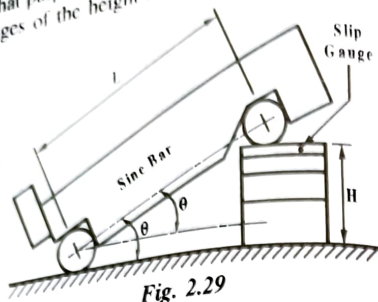

Fig. 2.29
Ans. Use of Sine Bar for Setting an Angle – A sine bar can be used to precisely set out any angle. For that purpose, the sine bar is first placed on a surface plate. After that slip gauges are placed under the desired angle and opposite the one roller and opposite the angle θ as shown in fig. 2.29. The centre distance between the rollers (L) which is known will be the hypotenuse and the required perpendicular or height of slip gauges (H) can be determined using the relation.